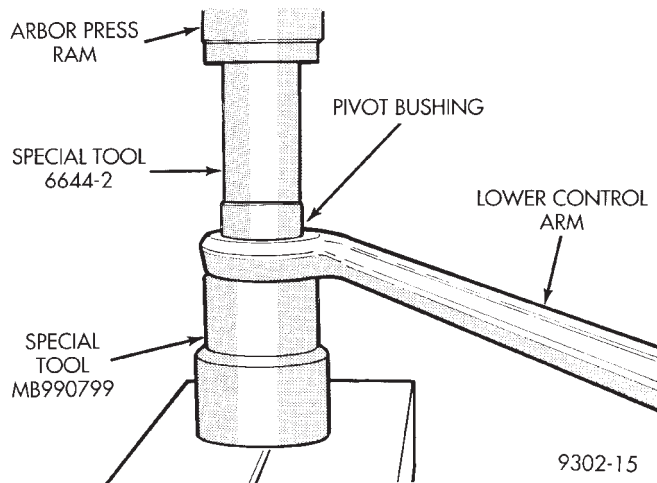

Fig. 1 Lower Control Arm Pivot Bushing Removal
- (1) Remove lower control arm and tension strut as an assembly from the vehicle. See Lower Control Arm Removal in this section of the service manual for the required removal procedure.
- (2) Separate the tension strut from the lower control arm assembly.
- (3) Position lower control arm in arbor press with large end of pivot bushing inside Receiver, Special Tool MB-990799, and special tool supporting lower control arm (Fig. 1). Position Remover, Special Tool, 6642-2 on top of pivot bushing (Fig. 1). Using arbor press, press on lower control arm pivot bushing until it falls free of lower control arm.
- (4) Remove the pressed out lower control arm pivot bushing from the Receiver, Special Tool MB-990799 and discard.